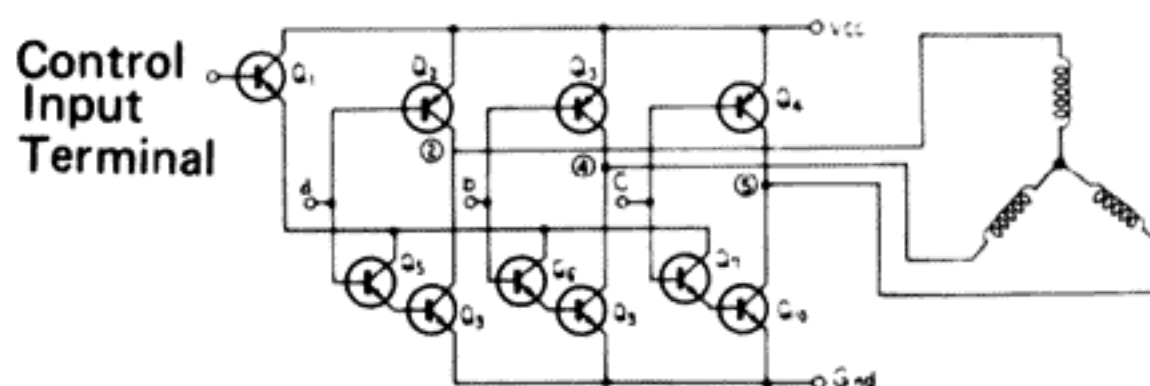

Fig. 9
1. Switching signals obtained from the three Hall elements and having been processed in the Position Detection Signal Formation Circuit, applied to terminals a, b and c in Fig. 9, in order to switch transistors Q2 ~ Q7.